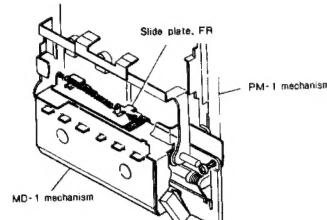

Fig. 25
2) After pressing the slide plate (FR) in the direction of the arrow, secure the mechanism assembly screws. (See figure 25)